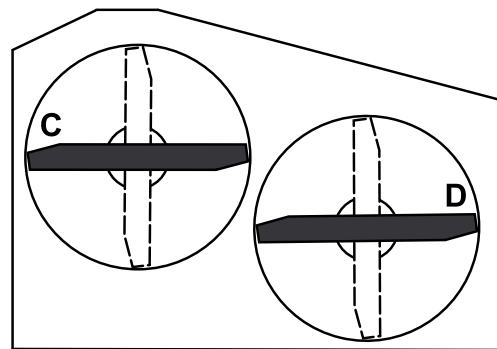

Figure 61
2. Position the blades side-to-side. Measure at **C** and **D** locations from a level surface to the cutting edge of blade tips (Figure 61).